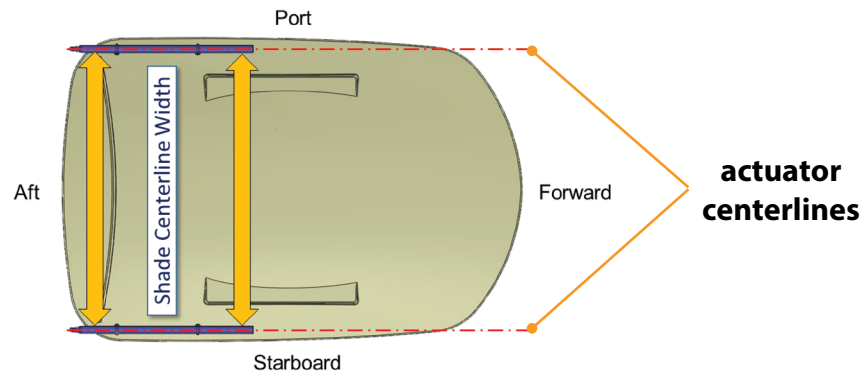

Fig.8
4. Measure from port actuator centerline to starboard actuator centerline at the forward and aft sections (Fig.8) to make sure the centerline width is accurate. Refer to shade centerline width dimension located on shade specification drawing.